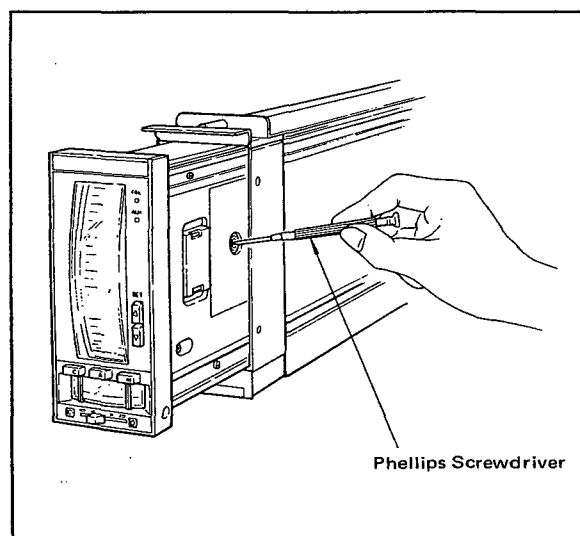

Figure 6-2-2. Zero Adjustment for Set Value Indicator.
- (2) Adjust using the same procedure as described in steps (2) thru (6) for the process variable indicator (6-2-2). Figure 6-2-2 shows zero point adjustment for set value indicator.